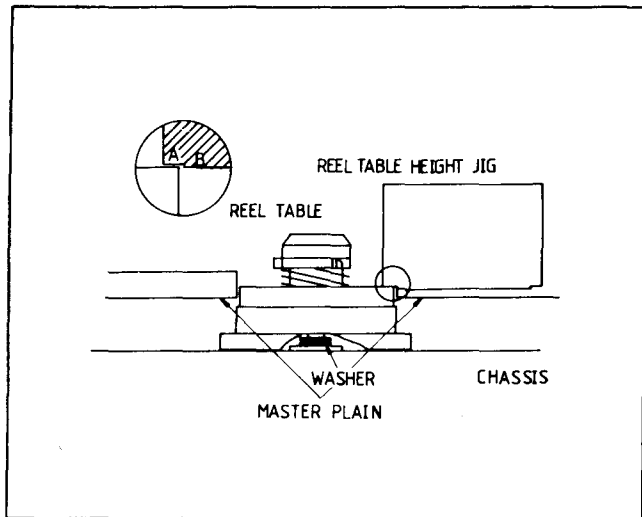

Fig. 1 Reel Disk Height
(See Figs. 1 to 3)
1. Remove the Panels. (See Fig. 1 to 3)
1. Follow the procedure for removing the panels (See Figs. 1 to 3)
3-2. Reel Disk Heights (Fig. 1)
Check turntable heights by installing the Master Plain. Set the Reel Disk Height Jig in place and check the height of the supply and take up turntables. (See Fig. 1.)
Note: For proper height point "A" should slide over the reel disk and point "B" should not. (Fig. 1)